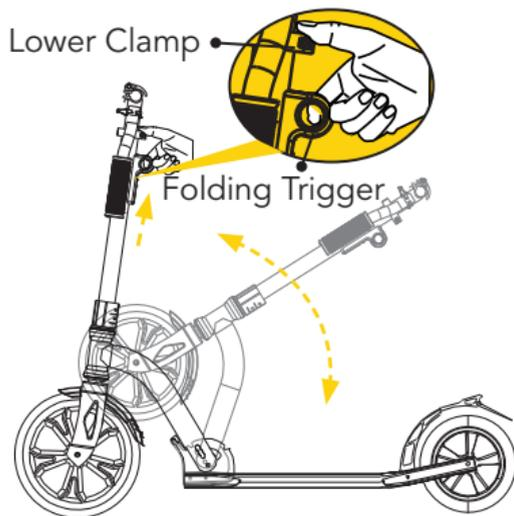

Fig. 1
1. Hold the scooter's stem with one hand. Slide your index finger on other hand through the folding trigger. Pull the folding trigger up towards the handlebar. You will hear a "click" (Fig. 1).